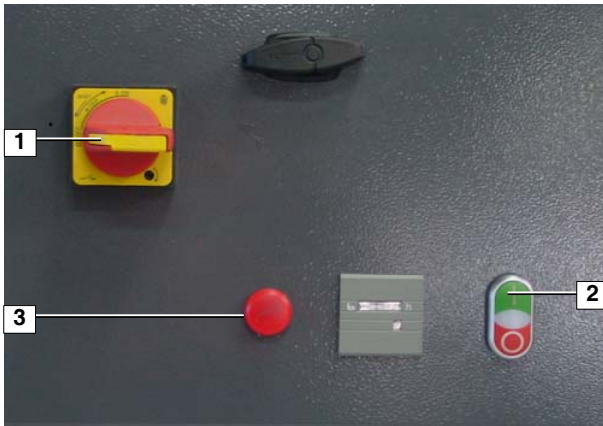

Abb. 14 Compressor control unit
- Place main switch (1, Abb. 14) to 1.